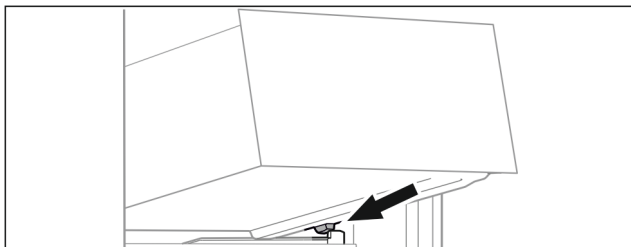

Fig. 104
- ▶ Place drawer at an angle behind the stoppers on the moulded rib. (see Fig. 104)